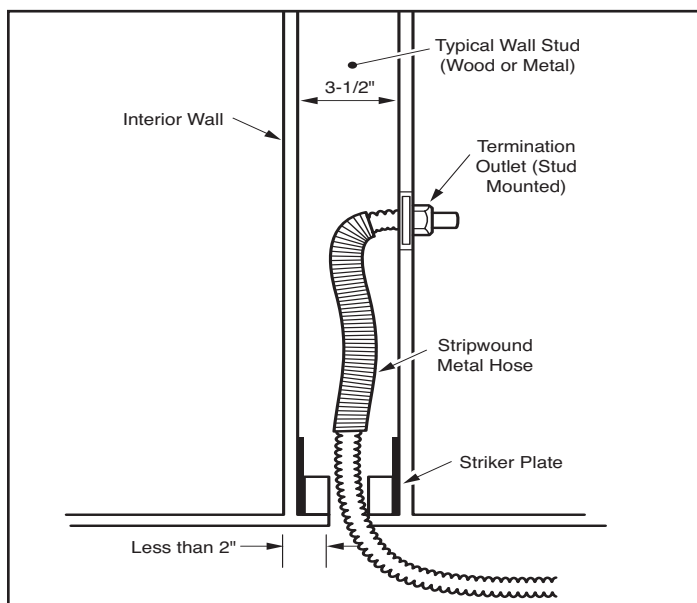

Figure: 4-21
c. Additional protection shall be provided by installing Type RW Floppy steel conduit at termination points to reinforce the required protection of hardened steel striker plates through building structures as described above. (**Figure 4-21**)